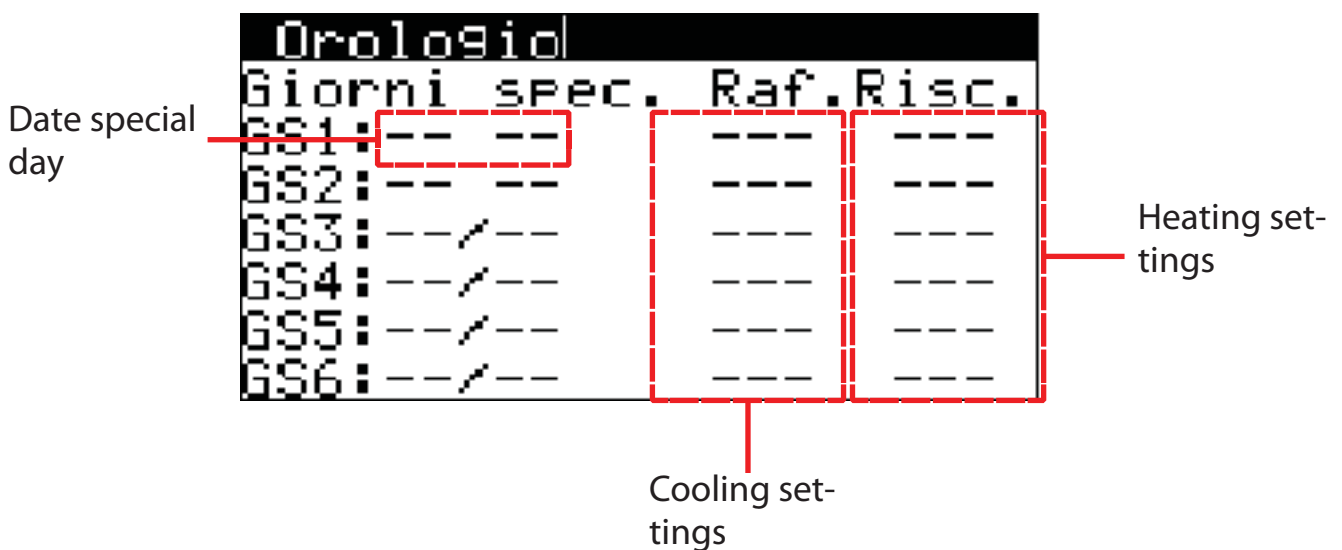

Fig. 12
5. screen of settings of the special days (Fig. 12)\*